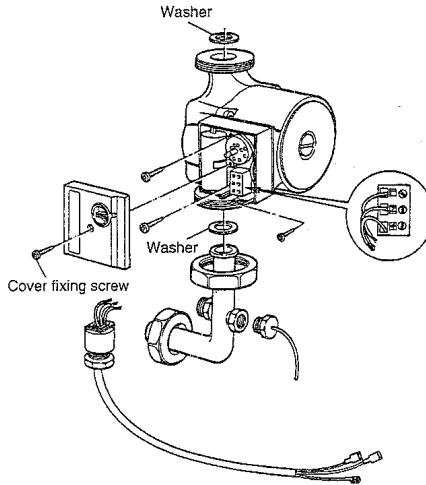

Fig. 40
- c) Remove electrical cover on pump, one screw (fig 40) (Rotate pump to remove cover)
- g) Re-assemble in reverse order (fig 40).